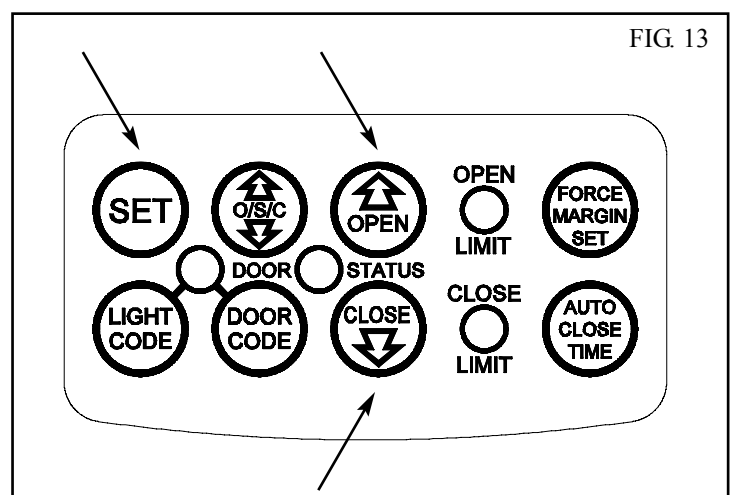

FIG. 13
3. Press the Close button (Fig. 13), the door will start closing. Release the button once you have reached your desired closed limit position. (Adjust close position with Open button if required).
6. Press the Set button (Fig. 13). This action will store into memory the open limit position. The door will now automatically close to its limit position then fully open to calculate the safety obstruction forces (ISS). Please be aware of the above warning. The opener can now be operated from the O/S/C Button.
1. Press and hold the Close button (Fig. 13) for six (6) seconds until you hear three beeps and the red Close Limit LED starts to flash. Release the button.